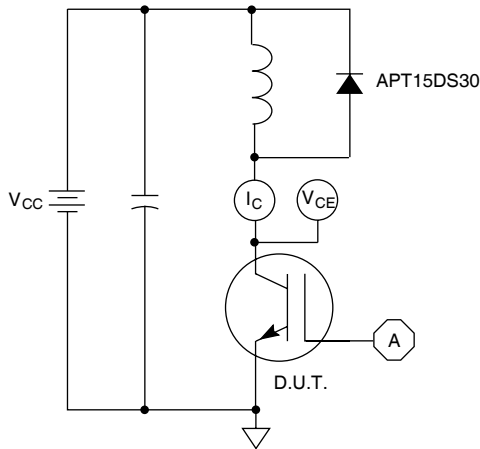

Figure 21, Inductive Switching Test Circuit
- ⑤ E_{on2} is the clamped inductive turn-on energy that includes a commutating diode reverse recovery current in the IGBT turn-on switching loss. A Combi device is used for the clamping diode as shown in the E_{on2} test circuit. (See Figures 21, 22.)
- ⑥ E_{off} is the clamped inductive turn-off energy measured in accordance with JEDEC standard JESD24-1. (See Figures 21, 23.)
- ⑦ Continuous current limited by package lead temperature.